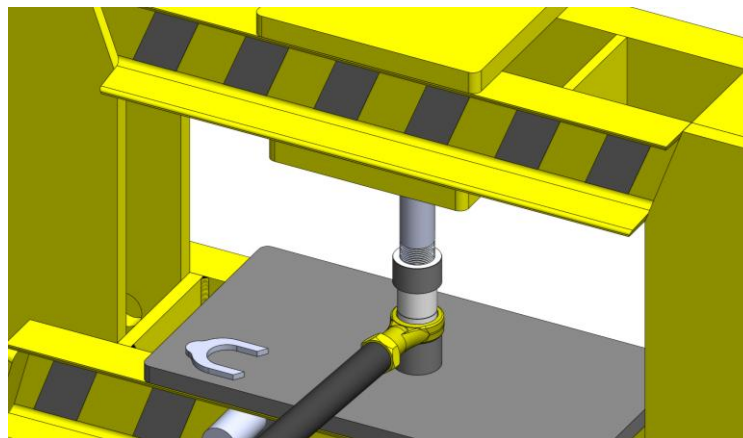

Figure 4: Bushing slightly pressurized
- Start the hydraulic press until it makes contact with the press tool at the shaft of the press (Figure 4).